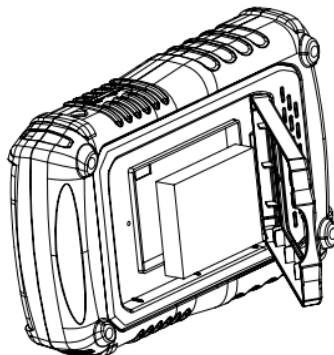

Figure 3
3. Put the battery into the battery bin stably, as figure 3 shows.
4. Cover the battery cap, and tightly twist the two screws which are dismantled from the battery cap forward, such as figure 3 shows.